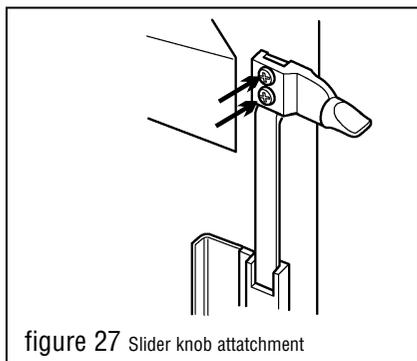

figure 27 Slider knob attachment
- 10.3.2** Detach the slider knob from the slider bar. See figure 27.